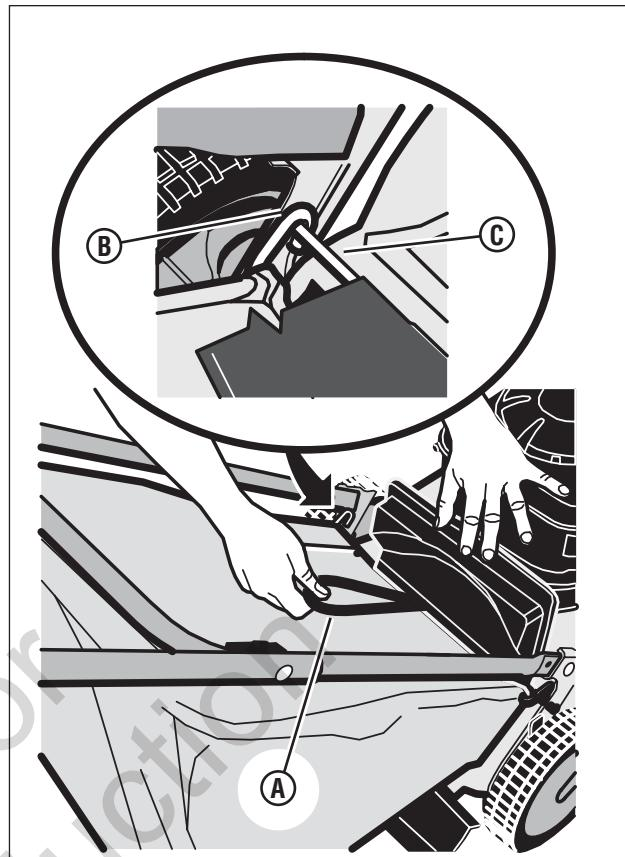

Figure 10: Installing the grass bag
3. Holding the grass bag handle **(A, Figure 10)**, install the grass bag onto the mower, making sure that the grass bag hooks **(B)** are hooked onto the rear door pivot rod **(C)**.